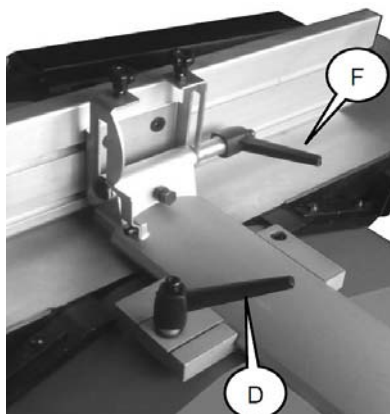

Fig. 21: Setting the workpiece stop
Step 7: Release the clamping lever (D, Fig.21) to move the stop to the desired position.
Step 8: Release the clamping lever (F, Fig.21) to set the desired angle of the stop.
Step 2: Remove the workpiece stop by releasing the clamping lever (D, Fig.21).